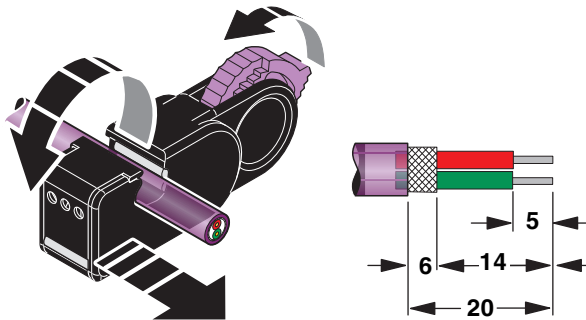

Figure 21 Stripping
To ensure reliable operation, observe the recommended stripping lengths according to Figure 21.
- Strip the cable as per the specified stripping lengths (see Figure 21).